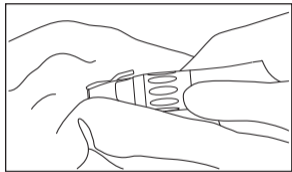

Fig. 12
2) Wipe the exterior of the handpiece clean using a cloth moistened with disinfectant or ethanol with a concentration of 60-90% (Fig. 12).